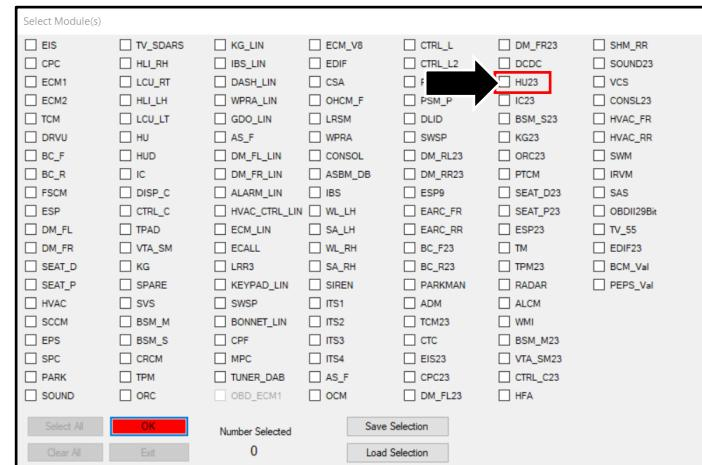

Figure 4
10. Select the "HU23" module then click the "OK" button (refer to Figure 4).